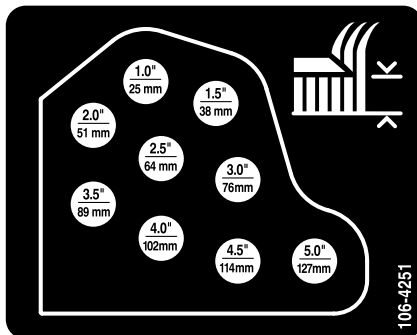

Figure 17
10. Mount the height-of-cut chains to the desired height-of-cut hole with the clevis pin and hairpin cotter (Figure 17).